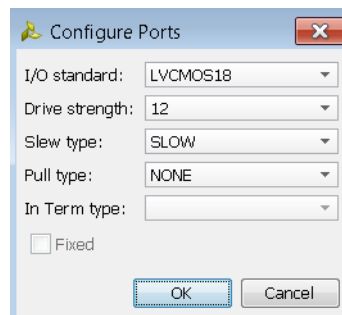

Figure 3-19: Configure Ports Dialog Box
- In the Configure Ports dialog box (Figure 3-19), edit the following options, and click **OK**: